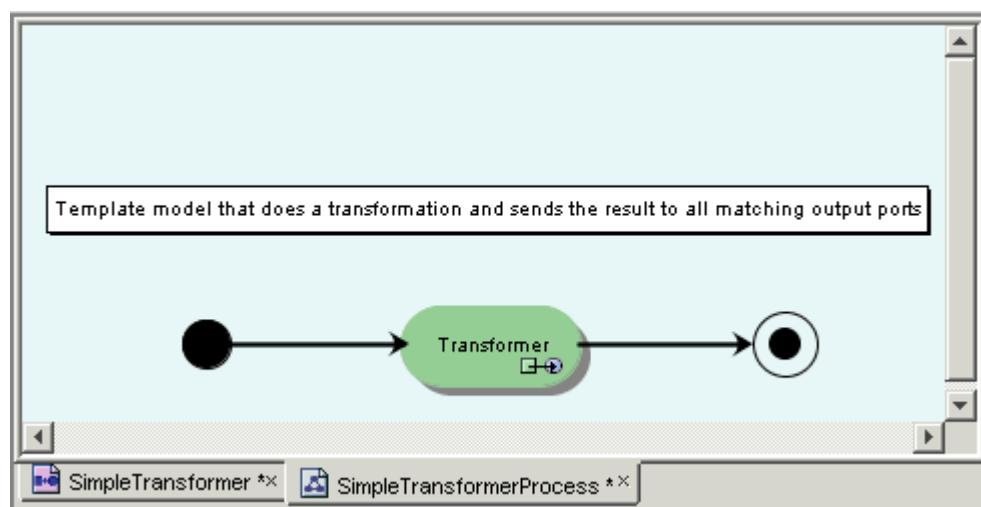

Figure 15-3 Process Model Containing a Transformer State
The SimpleTransformer template provides a quick shortcut for creating a process component that is used to perform a single transformation and push the output event to downstream components. This functions similarly to the RouteByPortType router, discussed above, but allows for an event transformation before the routing. Technically, it creates a process model with a nested transformer model, as shown in Figure 15-3.
4. Enter a name for your transformer model. Click **Next**. The process model that nests the transformer model will be named <Name>Process. As shown in Figure 15-3, the default name, *SimpleTransformer*, was used when creating the models. The process model name is *SimpleTransformerProcess*.